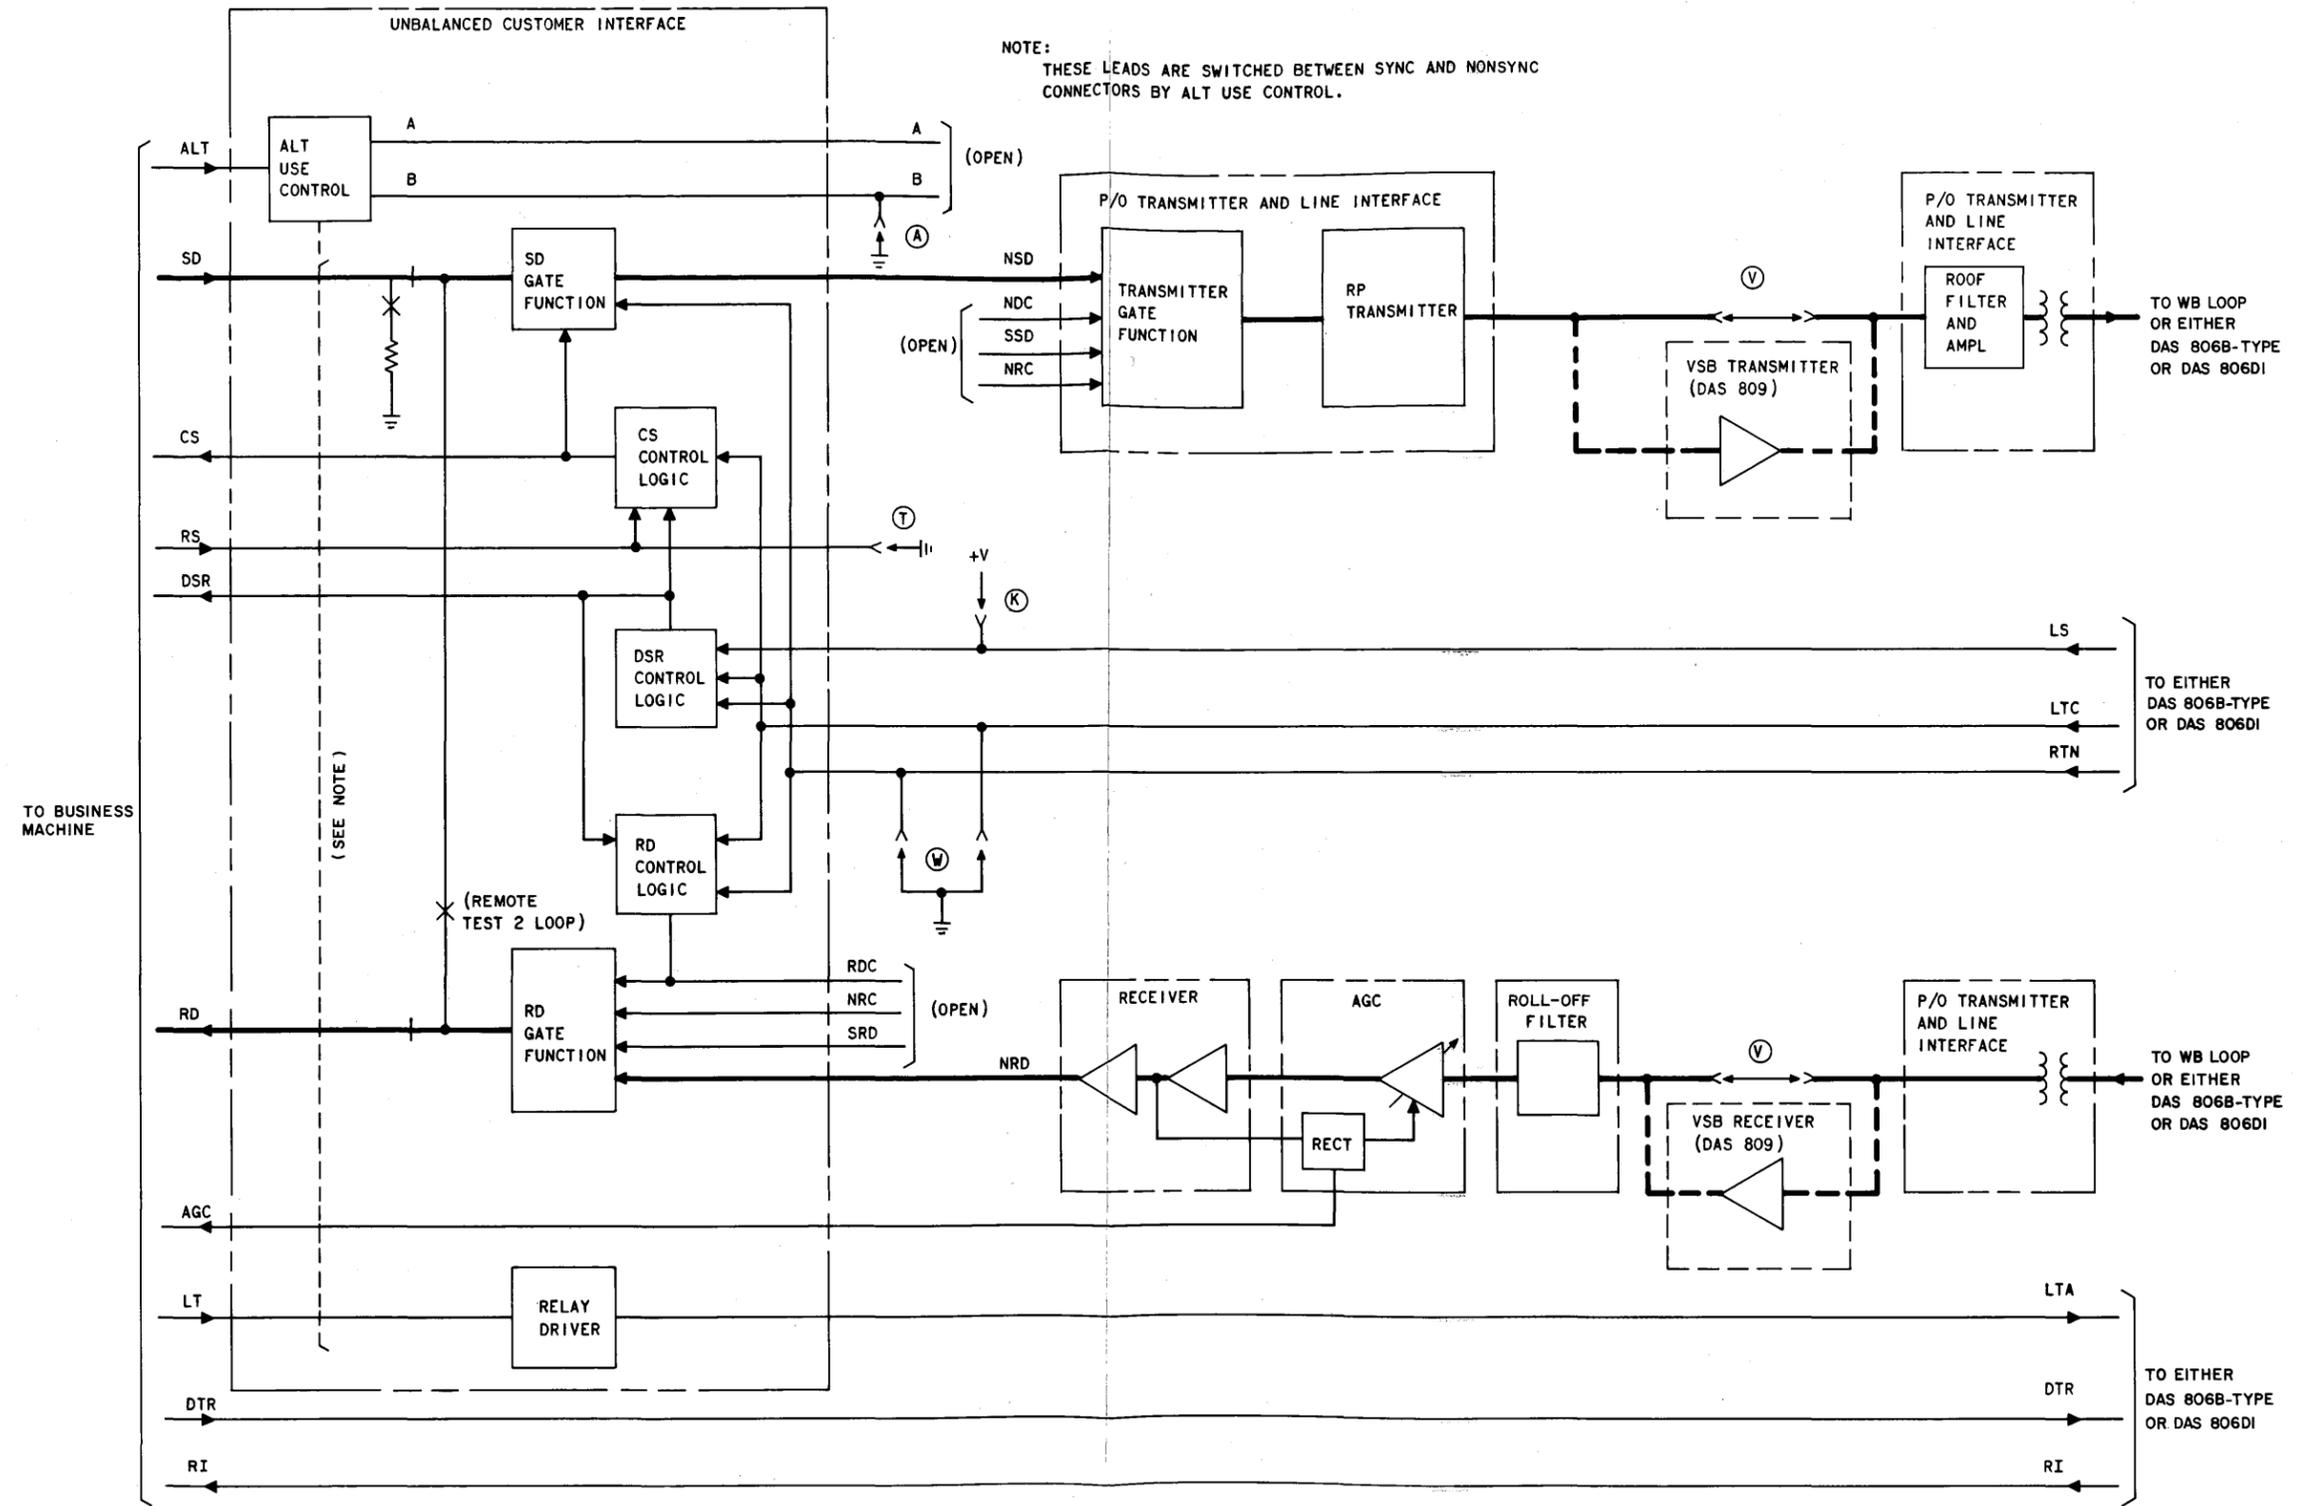

Fig. 4 Restored Polar-Nonsynchronous Operation With Unbalanced Customer Interface, Functional Block Diagram
**3.15** Paragraphs 3.16 through 3.21 describe the control functions and signal flow associated with a restored polar nonsynchronous data set with an unbalanced customer interface. A description is also included for the circuit packs which make up this type of data set (Fig. 4).